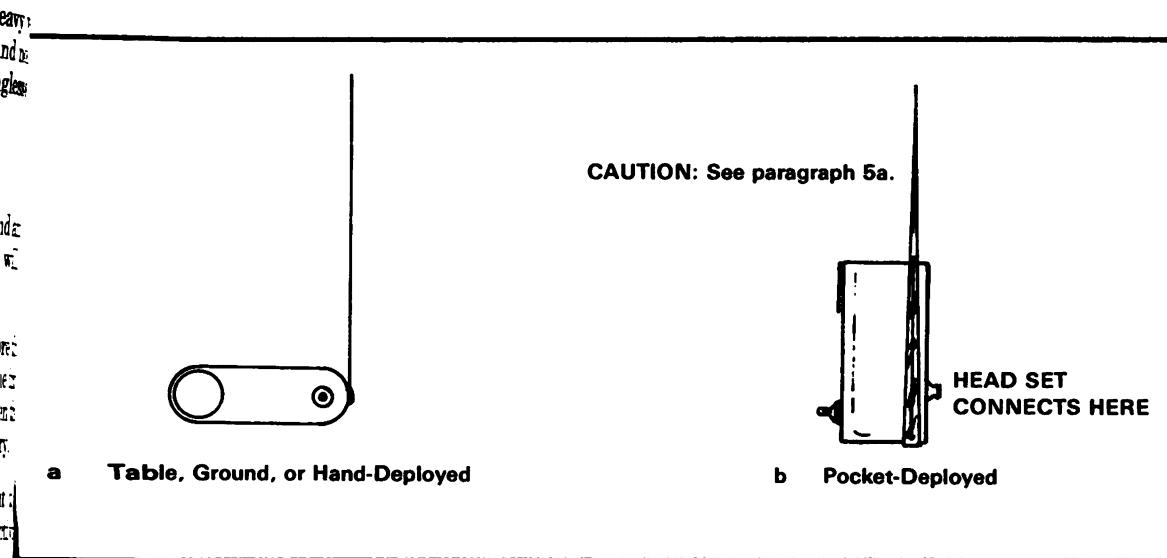

Figure 4. Receiver configuration while in use.
a. The two acceptable configurations in which the receiver set may be utilized are shown in figure 4. In the configuration (a), the receiver may be placed on a table, the ground, or held in the hand. The antenna should be free of any obstruction. In configuration (b), the receiver may be placed in the shirt pocket. **CAUTION: The antenna should be on the side away from the body to avoid the possibility of malfunction or poor reception due to body perspiration.**